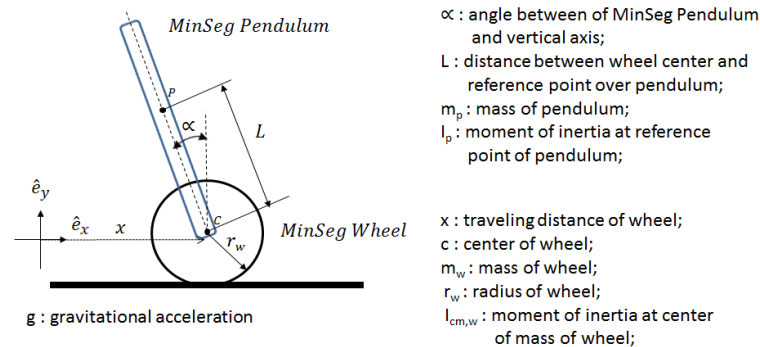

Figure 2 Mathematical model of MinSeg around the zero-equilibrium system.
Figure 2 depicts the motion of a MinSeg over flat ground. In our first homework assignment, the equation of motion was given as (1).
Step 2 Measure the physical parameters of your MinSeg as shown in Figure 2 (find creative ways to measure the weight in grams (home kitchen scale, post office, grocery store, etc.) Create a table to list the values of your measurement (SI unit). A set reference values of (k_t , K_b , R) are given as (k_t , K_b , R) = (0.3233 Nm/A, 0.4953 Vs/rad, 5.2628 ohms).